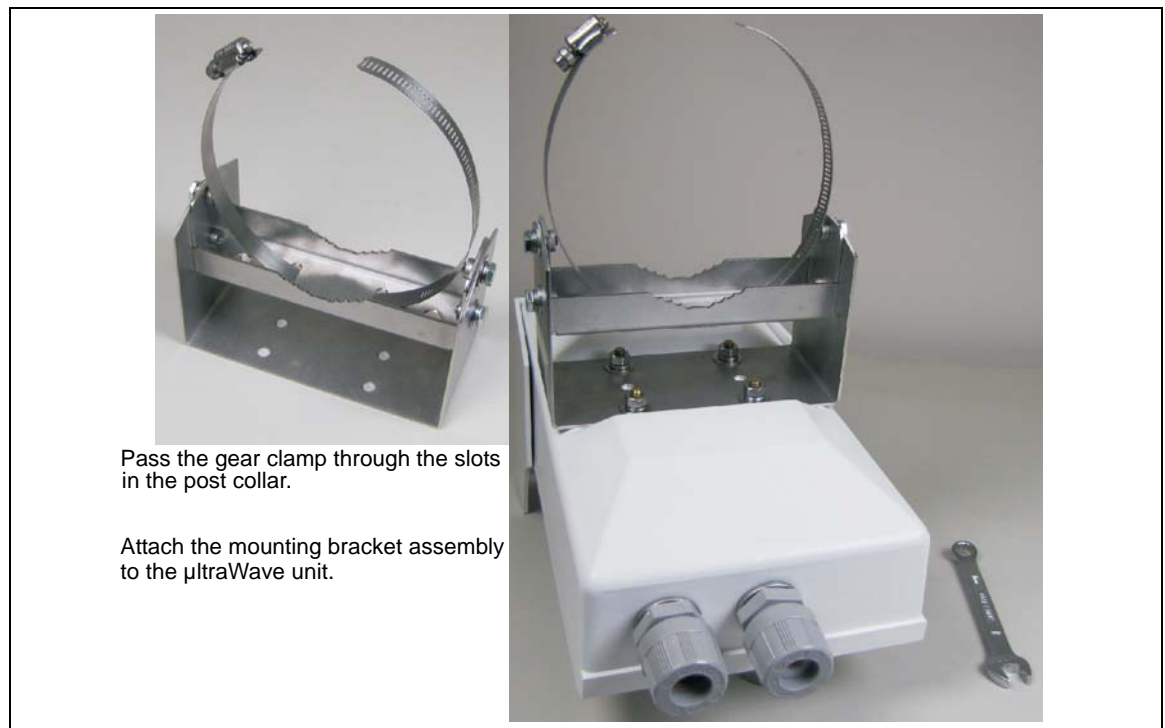

Figure 13 Post-mounting procedure
2. Using an 11 mm (7/16 in.) wrench and the supplied hardware (hex nut, lock washer, flat washer - X4) attach the mounting bracket assembly to the μ ltraWave unit (see Figure 13).